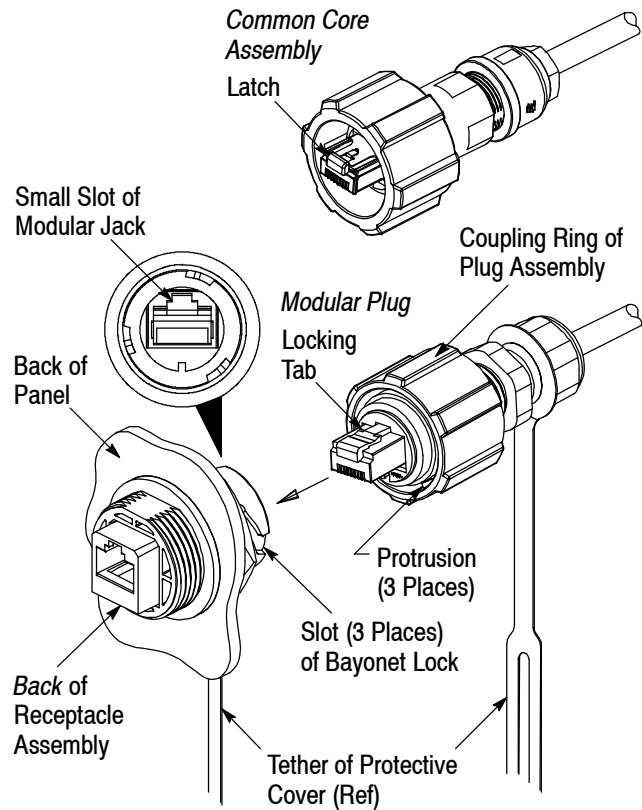

Figure 10
4. ENGAGEMENT (Refer to Figure 10)